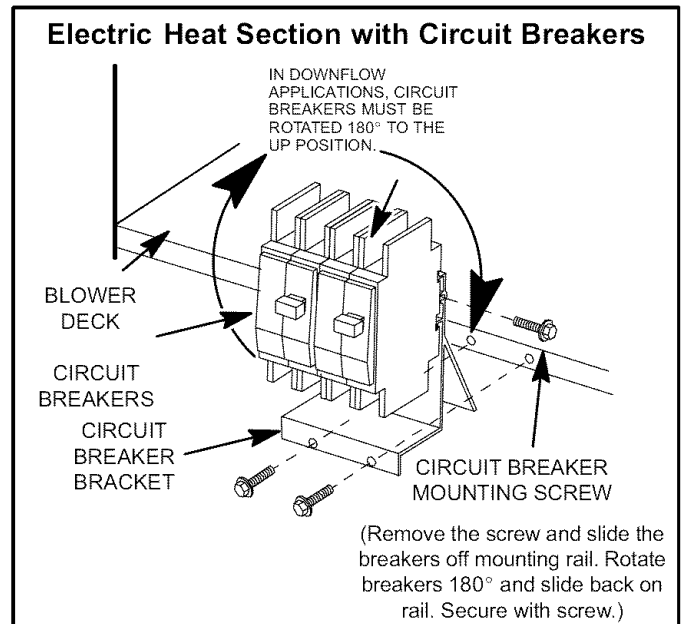

Figure 2
1. Install the circuit breaker on the blower deck flange. Use the provided screws (6) to secure (see figure 2).
NOTE - When applied in the downflow position, the circuit breakers must be rotated to the UP position. See figure 2 and follow the procedure below: